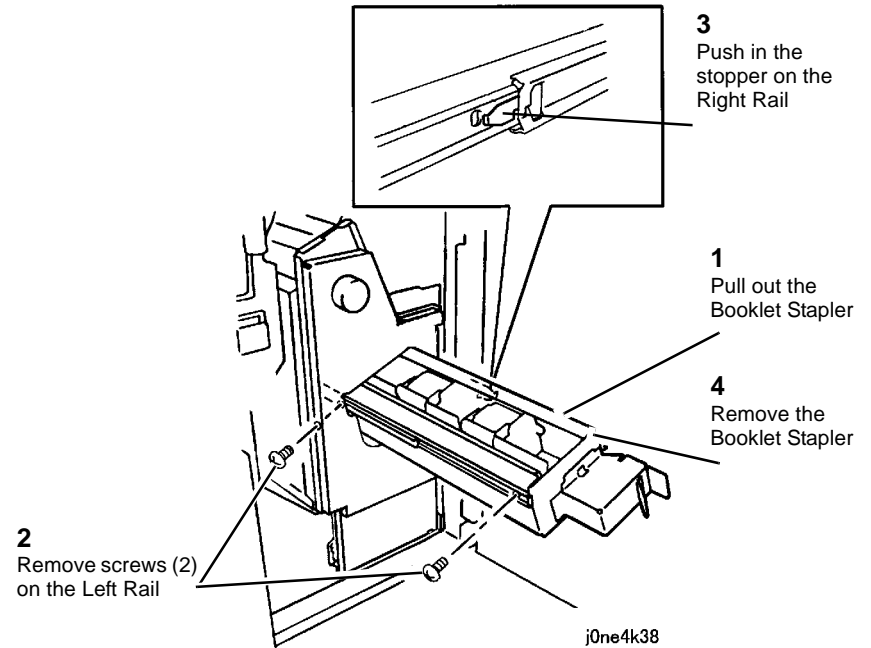

Figure 1 Removing the Booklet Stapler
3. Remove the Booklet Stapler (Figure 1).